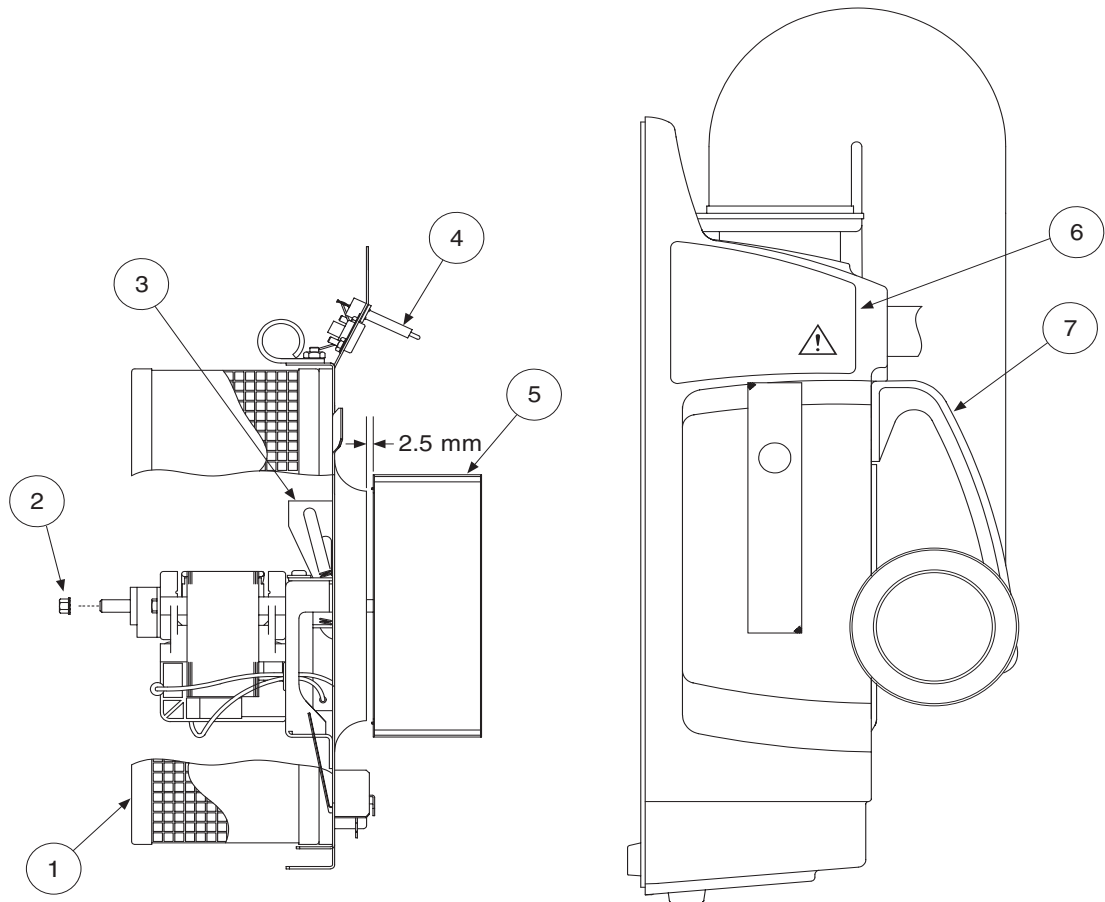

Figure 9 - TC3001 Detail Drawing
To replace the heater (item 3, fig. 9):
15. Reinstall the blower wheel, making sure there is 2.5 mm clearance between the wheel and the blower inlet ring (see fig. 9). (NOTE: the hex screw must be aligned with the flat on the motor shaft.)
16. Reinstall the blower wheel, making sure there is 2.5 mm clearance between the wheel and the blower inlet ring (see fig. 9). NOTE: the hex screw must be aligned with the flat on the motor shaft.